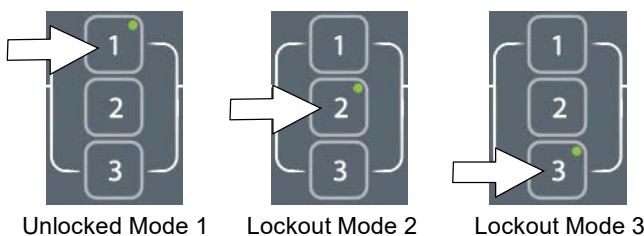

FIG. 159
1. Park the machine on a level surface and turn the key to off (O) position.
2. Press and hold the brush pressure button while turning the key on. Release button when the far right battery discharge indicator LED turns on (Figure 158). After releasing button, the active supervisor control mode will display as described in step 3 (Figure 159),
3. To select or change a supervisor control mode, press and hold the specific zone control button until the LED blinks three times (Figure 159). After selection is made, the LED will turn solid to indicate new mode.